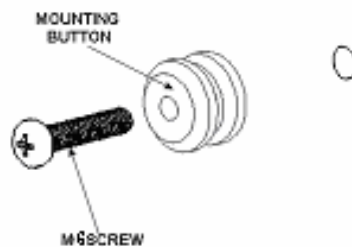
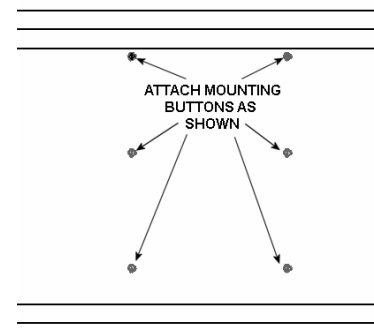

Figure 3
Figure 4
2. Attach mounting buttons to the display using six M6 screws and (see Figure 3 & Figure 4).